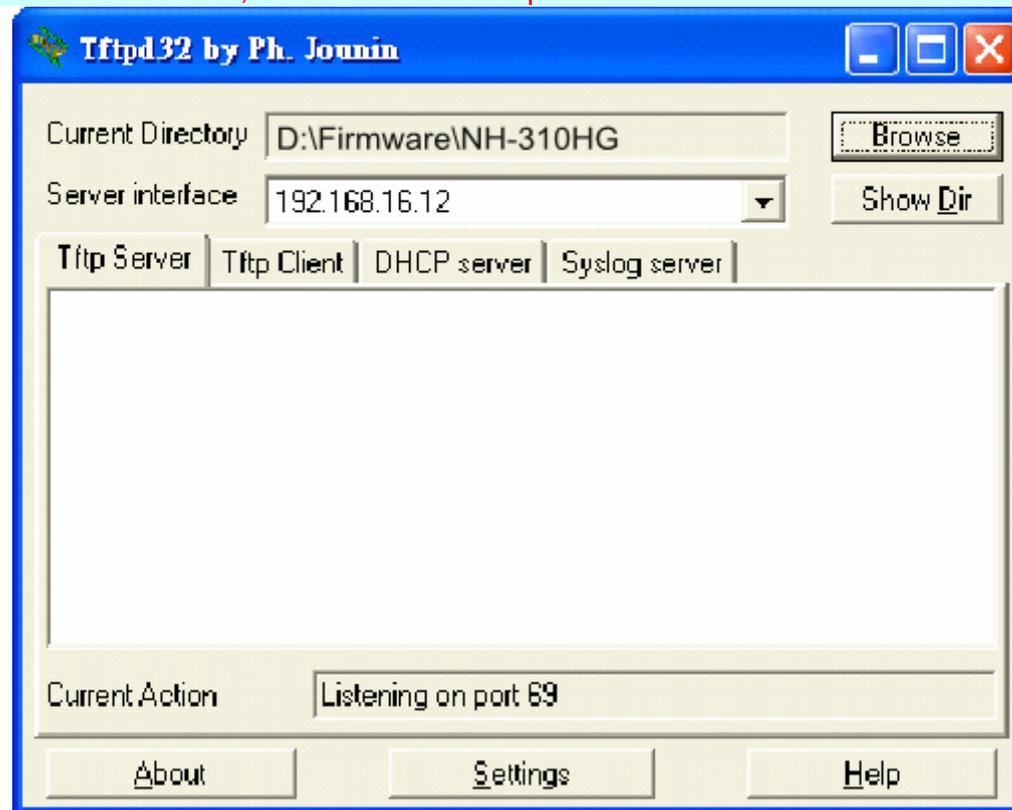

Figure 5.3.2 TFTP tool for f/w upgrading
- (2) Execute the TFTP tool and specify current directory which is stored the NH-310HG firmware. Enter the IP address of the TFTP server interface field. Now the TFTP server is ready for firmware upgrading. A screen is displayed as shown in Figure 5.3.2.